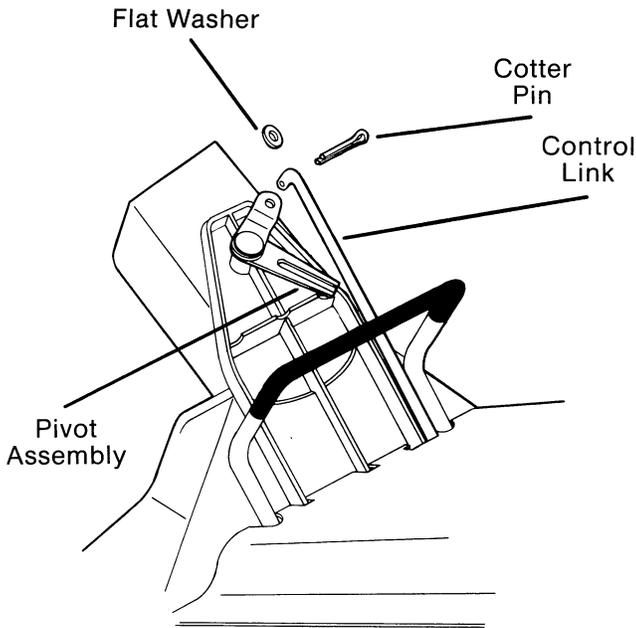

FIG. 5
- M. Place control link into hole in arm attached to pivot assembly. (Fig. 5)
- N. Slide washer on end of link and secure link in place with a cotter pin. (Fig. 5)